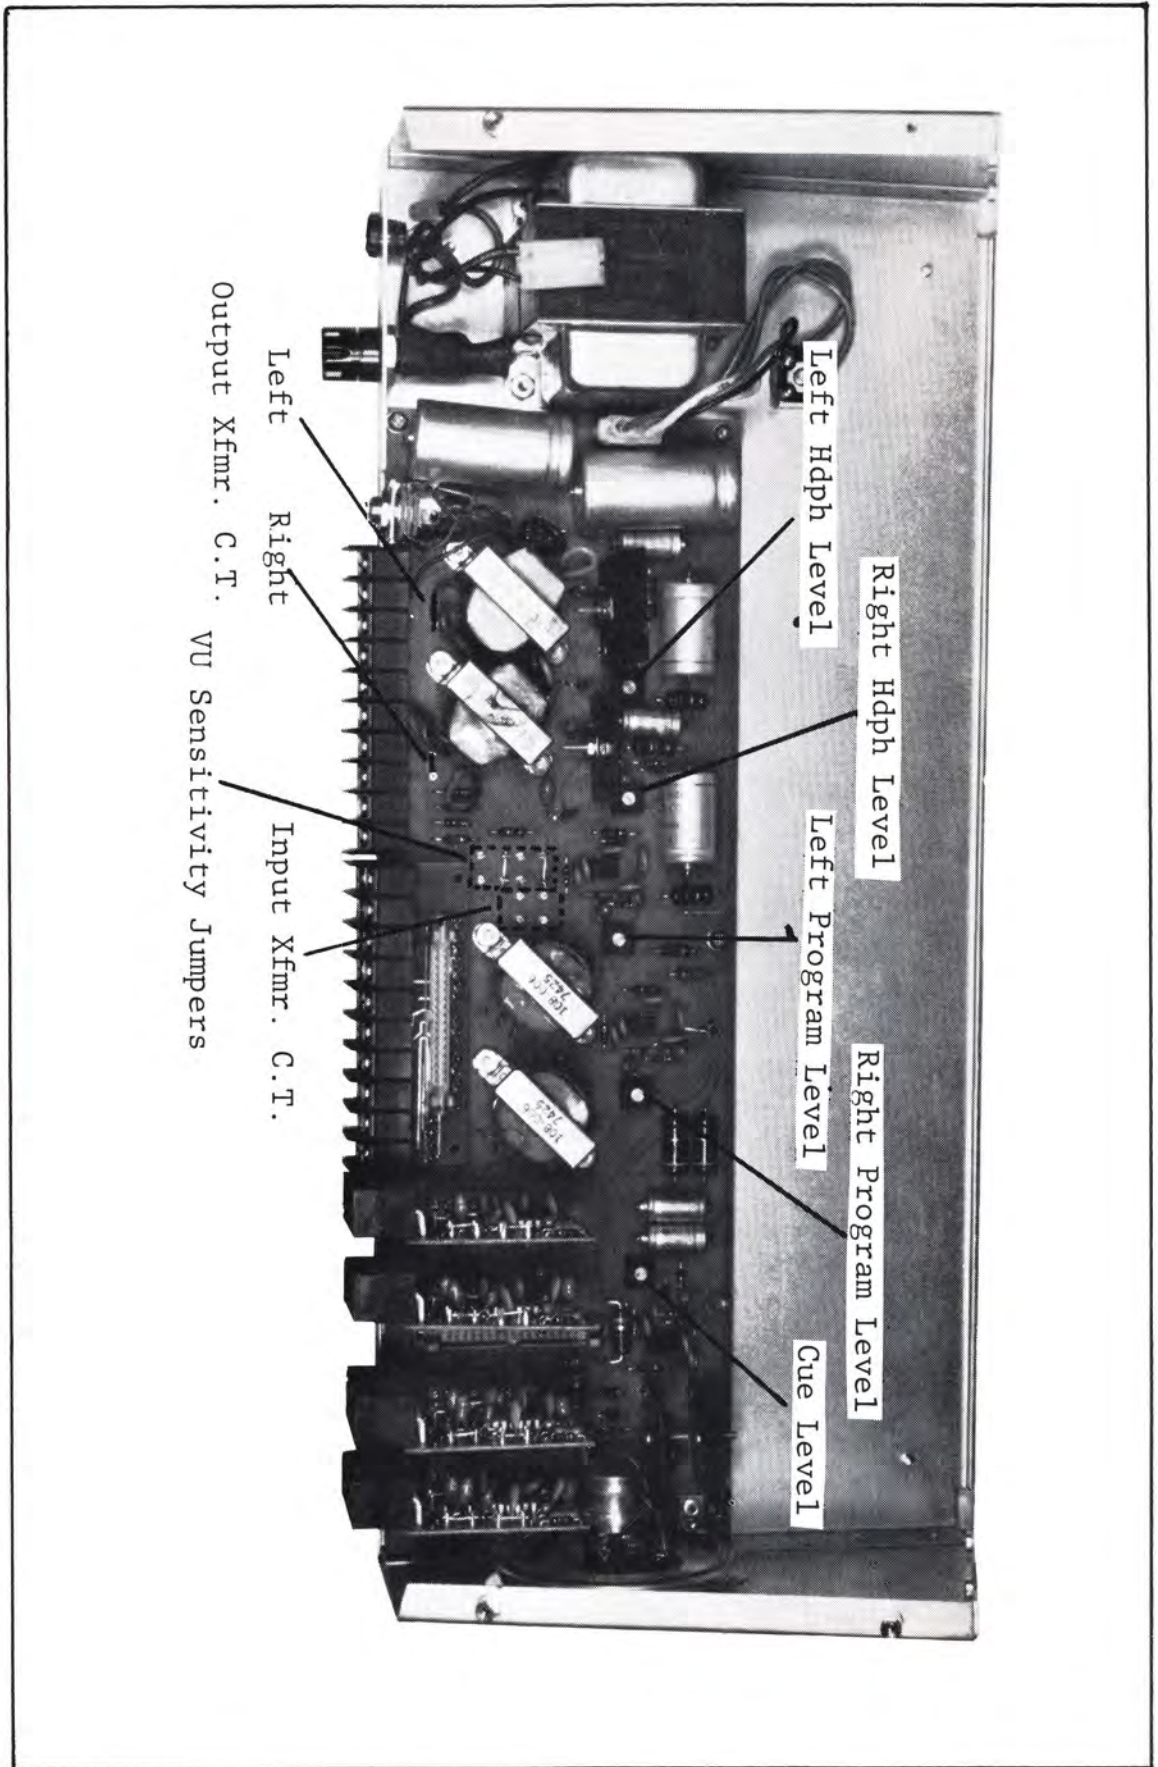

Figure 3-2 Main Board Pot and Jumper Locations
- 3-8. VU Meter (Fig. 3-2). VU meter sensitivity can be set for +4 or +8dBm output level. Install the appropriate jumper. The +4 jumper has been factory installed. Only one jumper should be installed.
- 3-9. Transformer Center-Taps (Fig. 3-2). Input and output transformer center-taps can be grounded if desired. Grounding center-taps may reduce noise. Jumper posts are adjacent to transformers. Install jumpers to ground the center-taps.
3-11. LEVEL SETTINGS (Fig. 3-2)